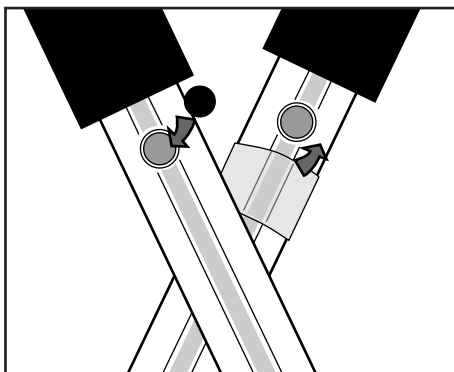

Figure 62
2. If using a refillable electrode, close the refilling hole by returning its rubber sleeve or stopper plug over the opening in the side of the electrode. —See Figure 62.